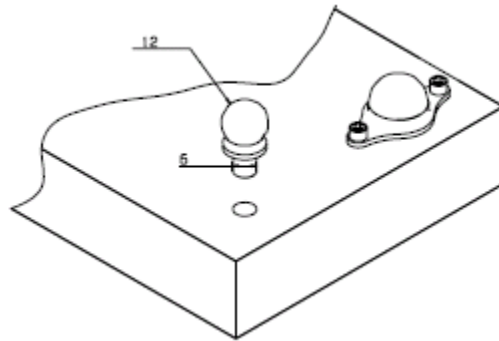

Figure 13
- Tooling balls (3) required for fixture alignment.
- (See Figure 13)